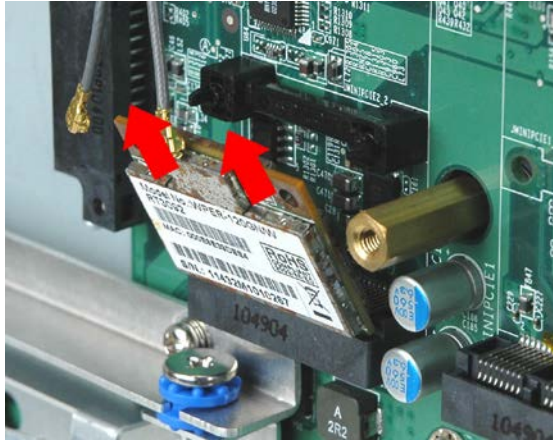

Figure 5-6: Removing the WLAN card
Step 8: Grasp the WLAN card by the edges and carefully pull it out of the socket (Figure 5-6).